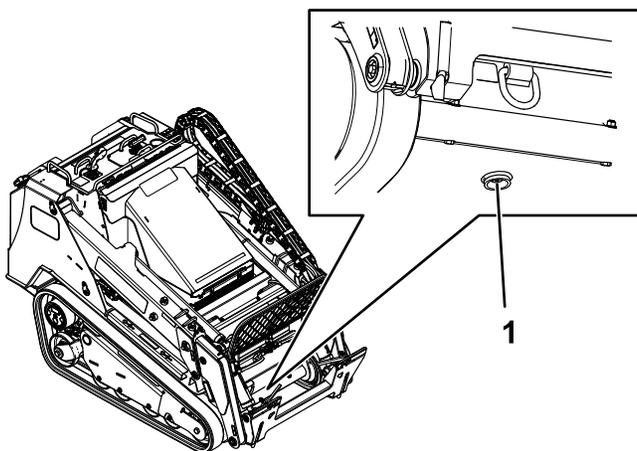

Figure 83
6. Place a large drain pan capable of holding 57 L (15 US gallons) under the drain plug on the front of the machine (Figure 83).
7. Remove the drain plug and allow the oil to drain into the pan (Figure 83).